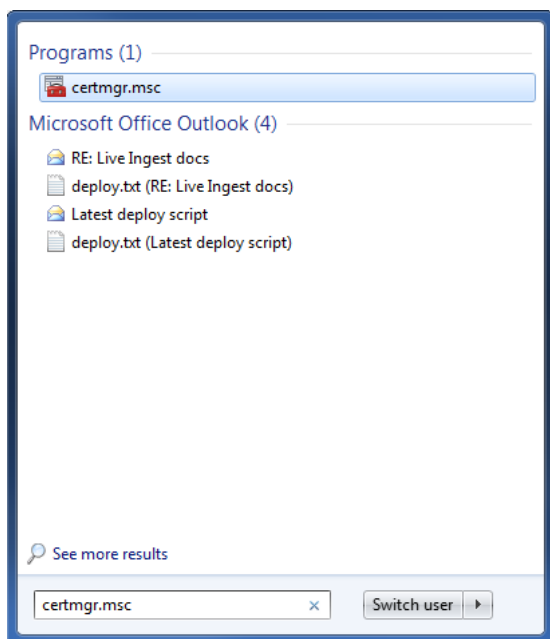

Fig. 2-8: Starting *certmgr.msc*
1. Click on the **Start** button and type *certmgr.msc* in the 'Search Programs and Files' text box (Figure 2-8).